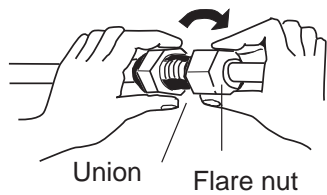

Fig. 6-5
3. For proper connection, align the union tube and flare tube straight with each other, then screw on the flare nut lightly at first to obtain a smooth match. (Fig. 6-5)